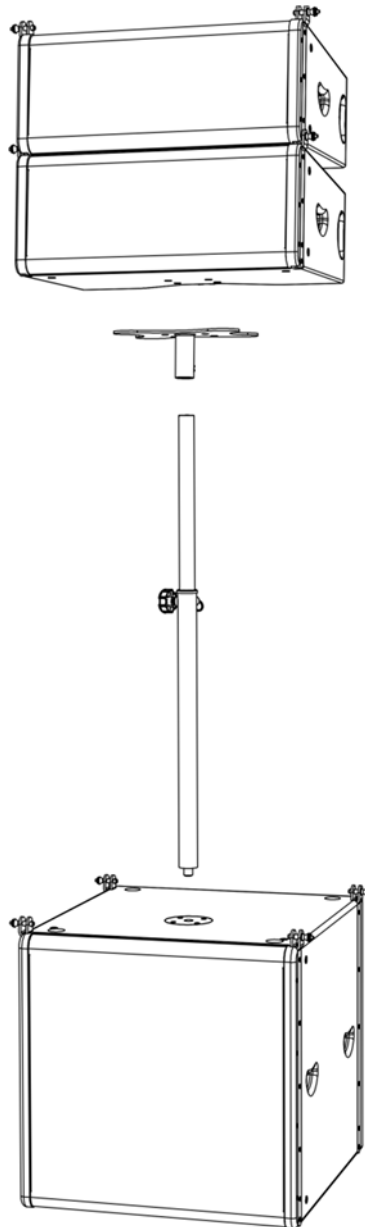

Fig. 04
02) You can now mount the Distance Tube (**D8611**) to the Odin T-8A and S-18A speakers (fig. 04).